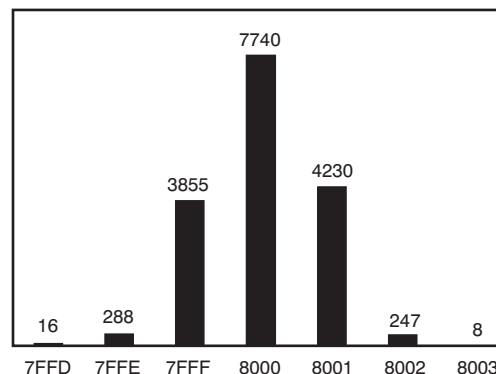

Figure 43. Histogram of 16,384 Conversions with $V_{IN} = 0$ V in ± 10 V Bipolar Range
Using a histogram to plot the output codes, the distribution should appear bell-shaped, with the peak of the bell curve representing the nominal output code for the input voltage value. The $\pm 1\sigma$, $\pm 2\sigma$, and $\pm 3\sigma$ distributions represent 68.3%, 95.5%, and 99.7%, respectively, of all codes. Multiplying the transition noise (TN) by 6 yields the $\pm 3\sigma$ distribution, or 99.7%, of all codes. Statistically, up to three codes could fall outside the five-code distribution when executing 1000 conversions. The ADS8517 has a TN of 0.8 LSBs, which yields five output codes for a $\pm 3\sigma$ distribution. Figure 43 shows 16,384 conversion histogram results.